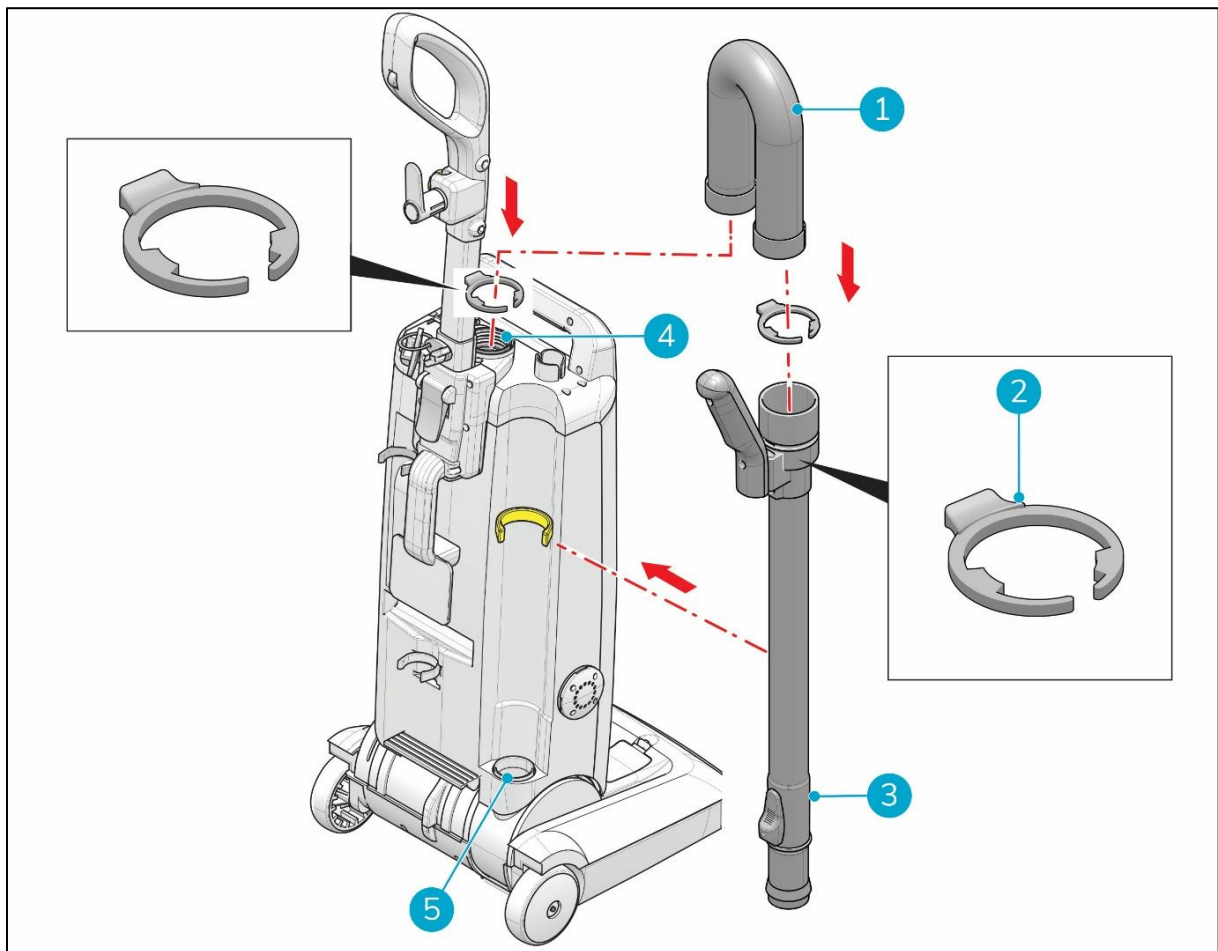

Figure 9
1. Connect one side of the hose (Figure 9, pos 1) to the broad side of the telescopic wand (Figure 9, pos 3) while depressing the clip (Figure 9, pos 2).
2. Connect the other side of the hose to the upper body (Figure 9, pos 4) while pressing the clip (Figure 9, pos 2).
3. Place the narrow side of the telescopic wand into the round opening (Figure 9, pos 5) in the lower body.